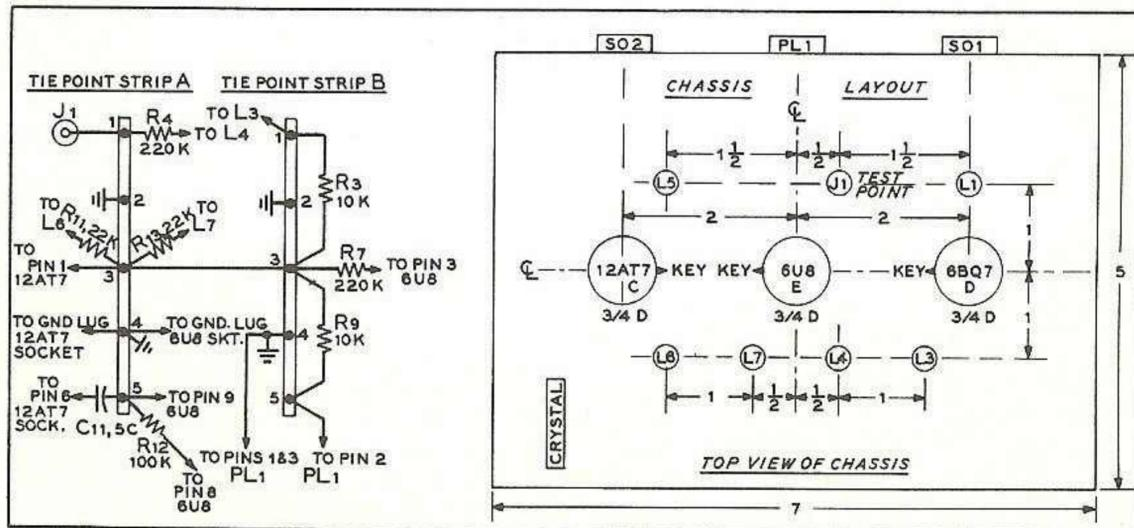

Fig. 17 Terminal strip layout and chassis drilling template for converter.
- ( ) Mount a two terminal phenolic tie-point strip (Q) in a vertical plane, using the retaining nut and bolt nearest the panel of the tube socket (hole O).
- ( ) Install r-f tuning capacitor C1 in hole N of the chassis-plate, using the collar nut. Position the capacitor as shown in Figure 17.
The 2N6 converter is constructed upon a 5" x 7" x 2" aluminum chassis. The under-chassis view of Figure 18 and the layout drawing of Figure 17 should give you a pretty good idea of component placement. Notice that a small copper shield is mounted across the 6BQ7A r-f amplifier socket at the right, shielding the grid and plate coils from one another.
- ( ) Lay out the chassis holes (Figure 17) to be drilled on the paper wrapper of the chassis. Drill the holes and remove the burrs.
- ( ) Mount the three nine-pin tube sockets in the holes along the center line of the chassis, using 4-40 hardware. The blank pin of the 12AT7 socket (C) and the blank pin of the middle 6U8 socket (E) face each other. The blank pin of the 6BQ7A socket (D) faces the center socket. Mark the socket designations on the underside of the chassis with a pencil. Place lockwashers under the bolt heads and *also* under the nuts to insure good grounds.